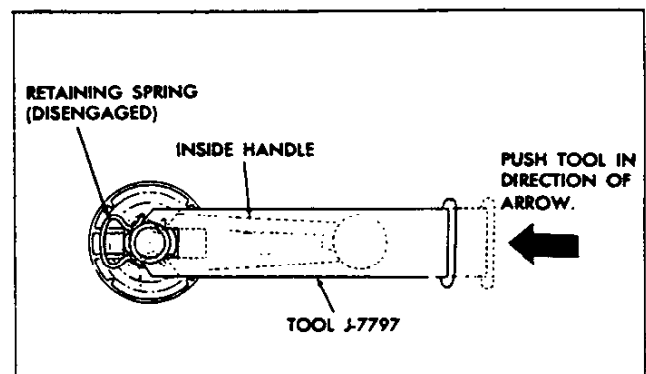

Fig. 24—Removing Window Crank With J-7797
**DOOR LOCK AND REMOTE CONTROLS (Fig. 24)****Removal**
5. Remove remote control assembly by removing four (4) screws to inner door panel.
6. Remove "crank link" (intermediate pivot) by removing two (2) screws to inner panel.
7. Remove door lock by removing three (3) screws and lifting assembly out through access hole.
3. Position window all the way up to line up two (2) sash screws through access holes.
4. Remove two (2) sash screws on horizontal guide channel while holding nut with other hand (fig. 24).
5. Disengage stop by removing one (1) Phillips head screw at top of channel assembly.